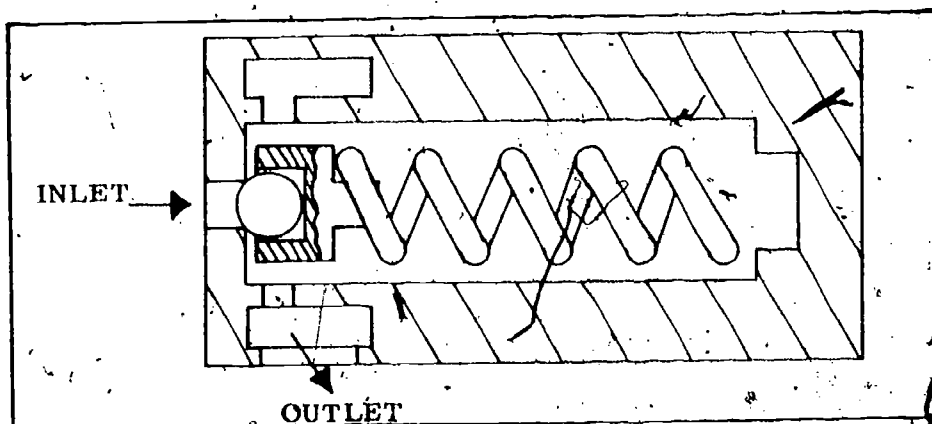

Fig 4-6. Simple relief valve.
- (2) Supply tank. The supply tank is large enough to supply the complete system and to maintain a reserve. On some vehicles the supply tank may serve more than one system.
- (3) Oil strainer. The oil strainer protects the hydraulic pump by trapping the larger particles of foreign matter that may enter the suction line. It may be installed in the tank or in the suction line as illustrated.
- (4) Valves. Valves are used in hydraulic systems to control pressure and the direction and rate of fluid flow. The valve name is generally related to its function such as pressure control valve or relief valve. There are too many valve configurations to cover them all, but representative type pressure and directional control valves are discussed below.
- (a) Pressure control valve. There are four basic types of pressure relief valves: pilot type, differential piston type, guided piston type, and spring loaded poppet type. The pressure relief valve is the most common of the pressure control valves and is used to protect the system from overload. Figure 4-6 illustrates a simple spring-loaded poppet relief valve. The system pressure works against a spring-loaded poppet ball. When the system pressure overcomes the spring pressure, the ball will unseat and allow the fluid to flow to the supply tank. When the system pressure lowers, the spring will cause the ball to seat and stop the flow. Some valves of this type are adjustable; the pressure setting is changed by changing spring tension.